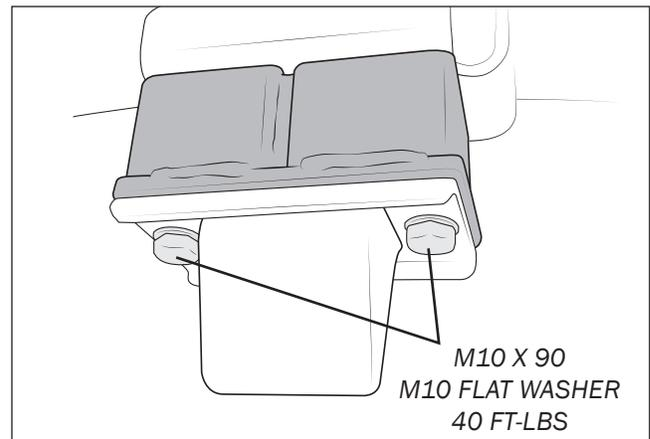

Figure 44
4. Install the bump stop spacers and factory bump stops with supplied hardware and torque to **40 ft-lbs** (fig. 44).